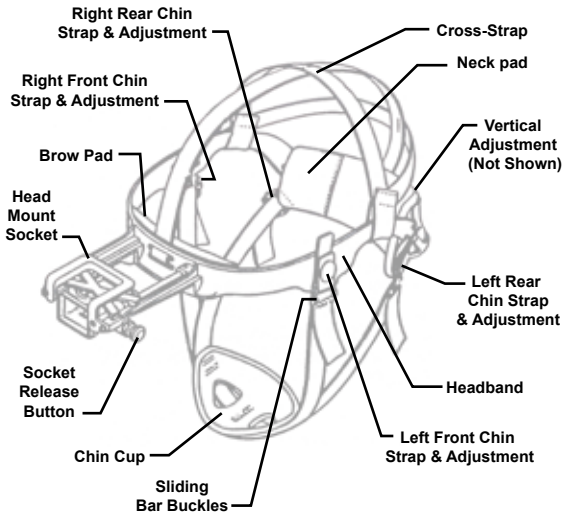

Figure 4-5. PVS-7 Head Mount Adjustments
1. Prior to putting on the head mount, loosen the four chin straps so the ends of each strap are approximately two inches from the sliding bar buckles (See Figure 4-5).